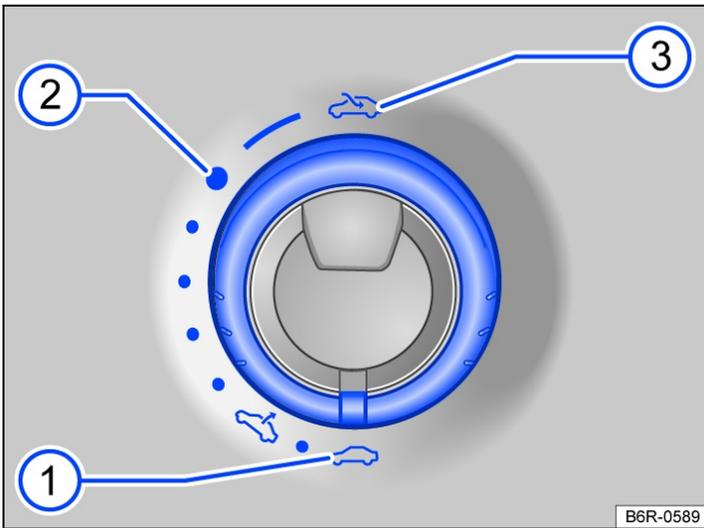
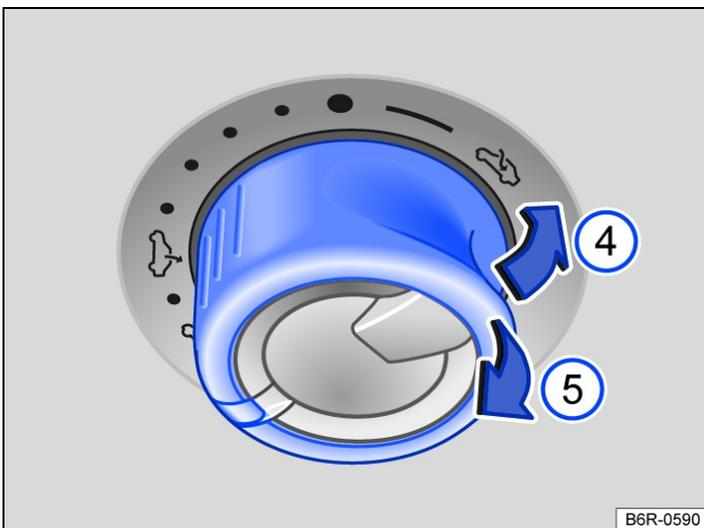

Fig. 1 In the roof: turn the switch to open and close.
Fig. 2 In the headliner: push the switch to tilt and pull the switch to close.
The rotary switch must be in basic position → Fig. 1 ① in order to tilt the glass roof.
- *Slide all the way open:* turn the switch to position → Fig. 1 ③ and hold it in place until the glass roof has reached the desired position.
- *Convenience position:* turn the switch to position ②.
- *Select an intermediate position:* turn switch to position ② to ①.
- *Fully close:* turn switch to position ①.
- *To tilt fully:* press the switch at the rear → Fig. 2 ④ briefly.
- *To stop one-touch operation:* briefly press or pull the switch at ④ or ⑤ again.
- *Fully close:* pull switch ⑤ briefly at the rear.